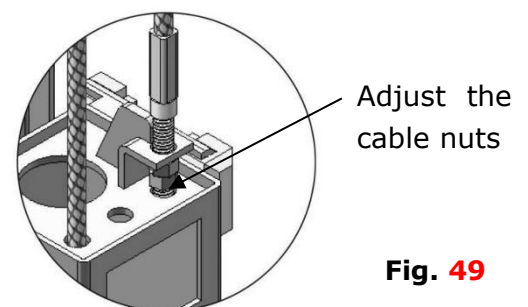

Fig. 49
1. Adjustment of sync cable (See Fig. 49)